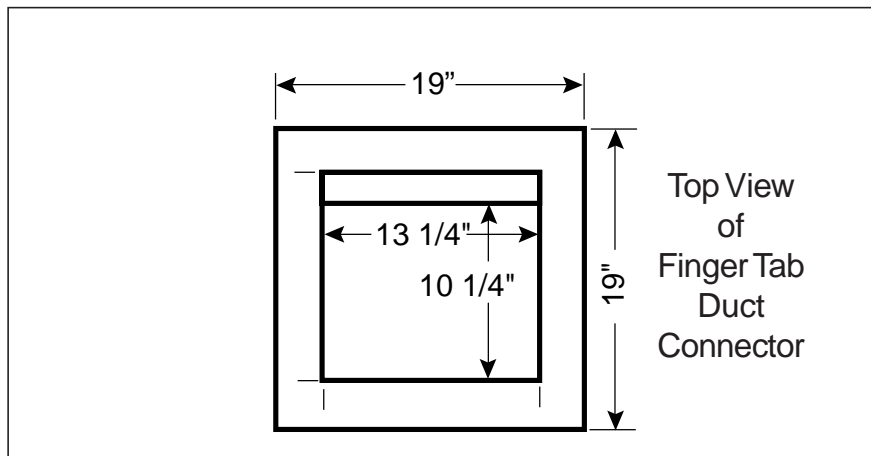

Figure 10.
- Locate center of the floor opening, measured 10" from the rear wall, and mark cut-out measuring approximately 14-1/2" by 14-1/2" ($\pm 1"$) for model duct connector used (refer to Figures 10 & 11).